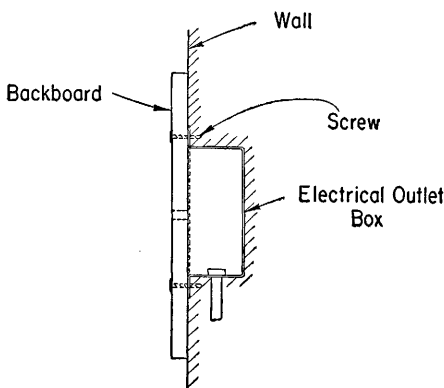

Fig. 7—Mounting Backboard on Electrical Outlet Box
4.07 To mount wood backboards over electrical outlet boxes, use two screws as shown in Fig. 7. If the backboard is not secure, other screws through the backboard may be used, placing them into studding, when possible.